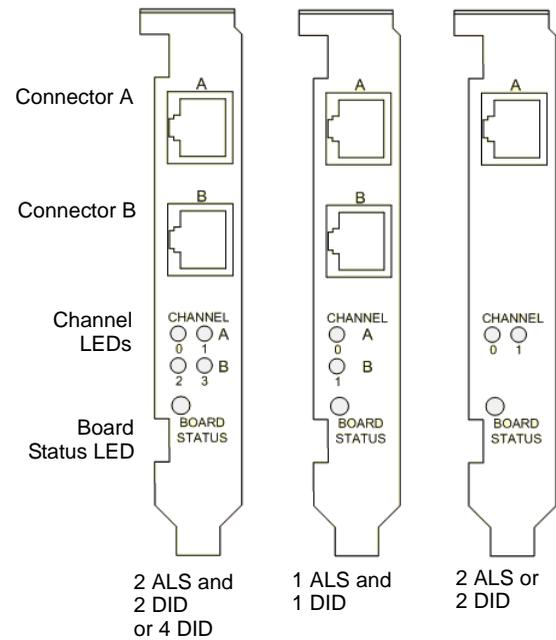
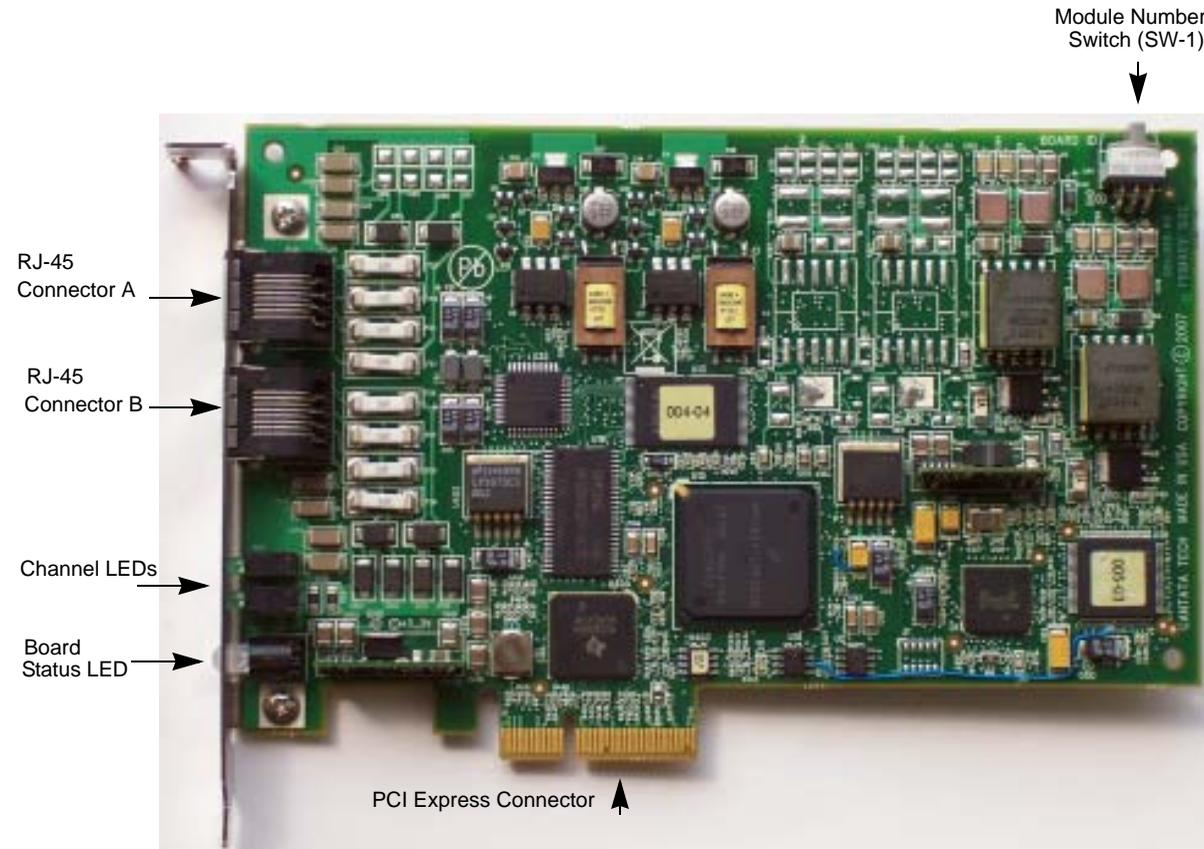

Figure 3. End Panel Connector and LEDs
Figure 4. Dialogic® Brooktrout® TR1034 DID, Combo & Loop Start PCI Express Board
Use the SW-1 rotary switch to set a unique module number for each Dialogic® Brooktrout® board. See Figure 4 for the switch location. Select a number from 2 - F on the rotary switch. Settings 0 and 1 are reserved and cannot be used.
1. Plug one end of the cable into the A or B RJ-45 telephone connector on the board (see Figure 3 and Figure 4 to locate connectors).
The LEDs on the mounting bracket provide information about the status of the different systems on the board. To identify and locate these LEDs, see Figure 3.